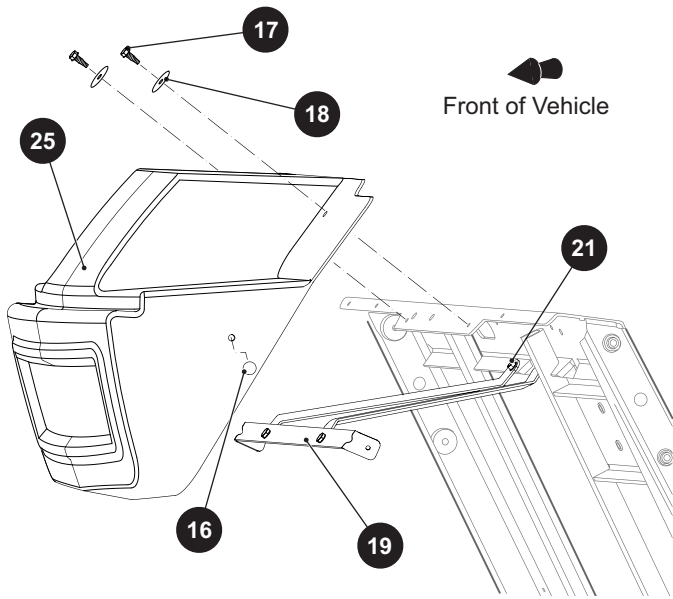

Figure 5 Fascia
2. Drill out the rivets (16) securing the sides of the fascia (25) to the mounting bracket (19).
3. Remove the screws (17) and washers (18) securing the front of the fascia (25) to the frame and place the horn out of the way.
4. If the mounting bracket (19) is damaged, remove it by removing the screws (21) securing it to the frame (Ref. Figure 5).